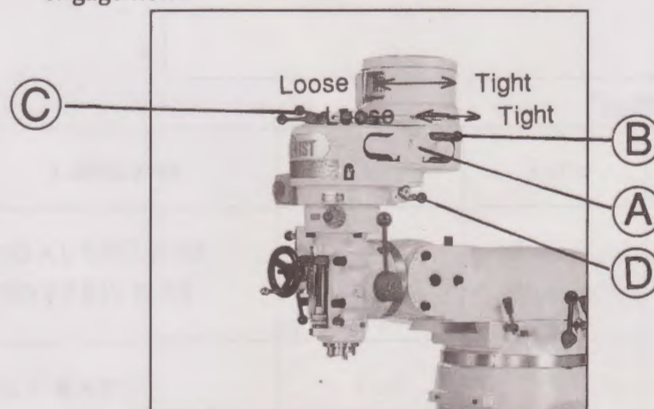

Figure 41
Adjustment and change of Belt Pulley (Figure 41):
(1) Replacement of V-Belt and Timing Belt of 1½ TM Miller:
- b. Take off the side cover of belt wheel housing (Vide Figure 41(A), P. 43).